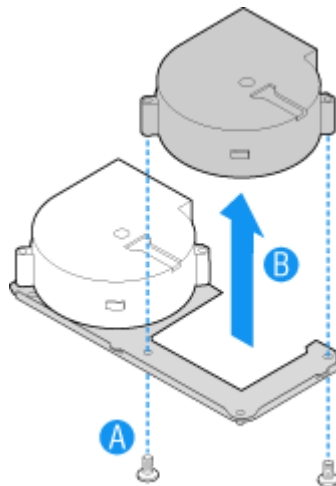

Figure 133: Removing Fan from Fan Bracket
- Turn the bracket over and remove the two screws that attach the failed fan to the bracket. See letter "A" in Figure 133.